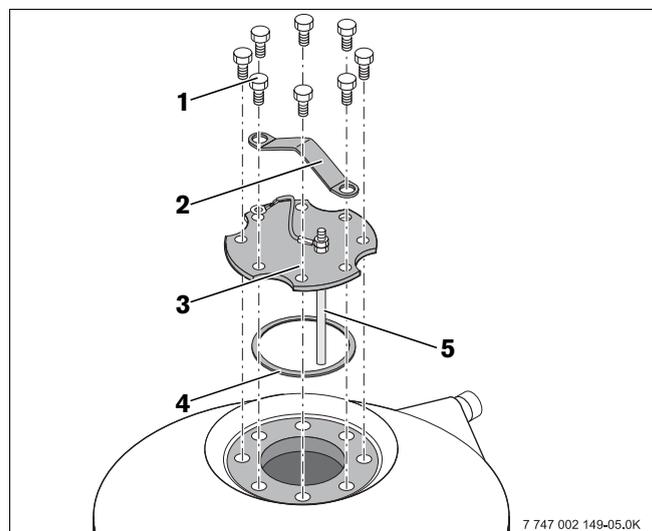

Fig. 13 Removing the access port cover
- Remove the hex screws (Fig. 13, **Item 1**) from the access port cover (Fig. 13, **Item 3**).
- Remove the access port cover, transport handle (Fig. 13, **Item 2**) and access port cover gasket (Fig. 13, **Item 4**) from the DHW tank.